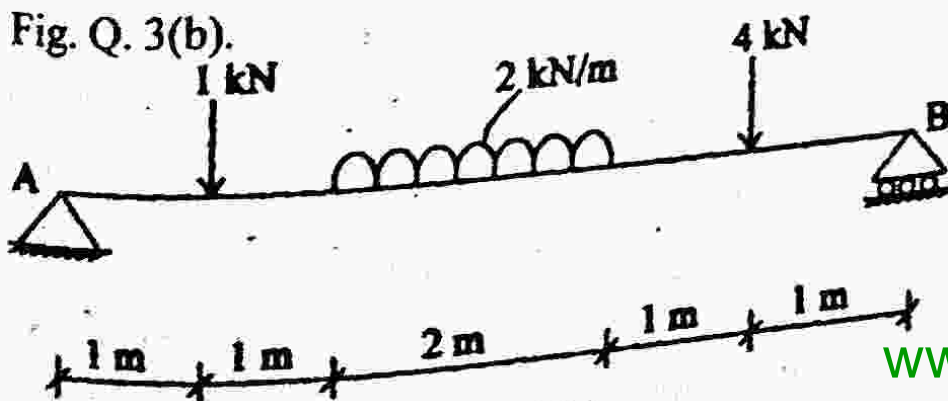

Fig. Q. 3(b)
2. (a) Derive the relation between the modulus constants E , K and G , using usual notations. (7)
- (b) A thin cylindrical shell 1 m in diameter and 3 m long has a metal wall thickness 10 mm. It is subjected to an internal fluid pressure of 3 MPa. Find the circumferential and longitudinal stresses in the wall. Determine the changes in length, diameter and volume of the cylinder. Take $E = 210 \text{ GPa}$ and $\nu = 0.3$. (7)
3. (a) What is the point of contraflexure? (2)
- (b) Draw SFD and BMD for the beam AB as shown in Fig. Q. 3(b). (11)